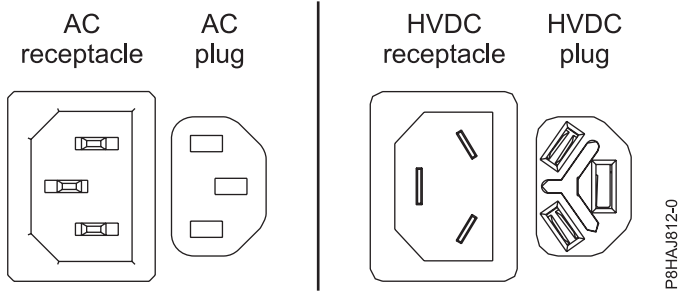
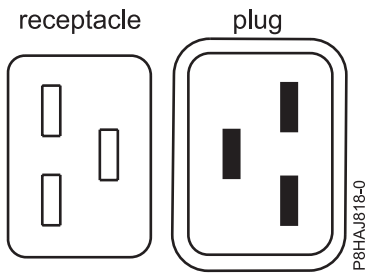
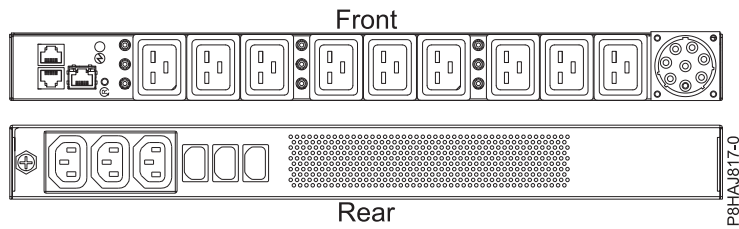

Figure 13. AC and HVDC connectors
Figure 14. Connectors for the 8408-44E system
Figure 15. PDU for the 8408-44E system
Figure 13 on page 37 shows the supported alternate current (AC) and high voltage direct current (HVDC) connectors. Figure 14 on page 37 and Figure 15 on page 37 show the supported connectors and power distribution unit (PDU) for 8408-44E.